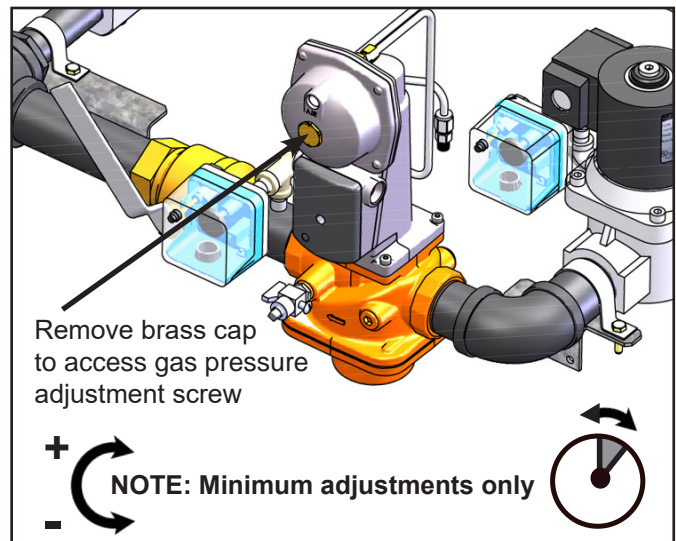

Figure 55. Gas Pressure Adjustment Screw
- L. Locate the pressure adjustment on the Pressure Regulating Gas Valve by removing the brass cap at the top of the gas valve. See Figure 55